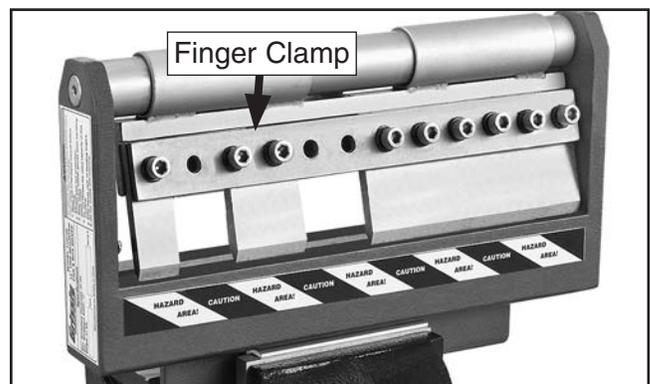

Figure 9. Example of finger spacing.
- Position the fingers in an arrangement for the length or width of the desired bend (see **Figure 9** for an example).